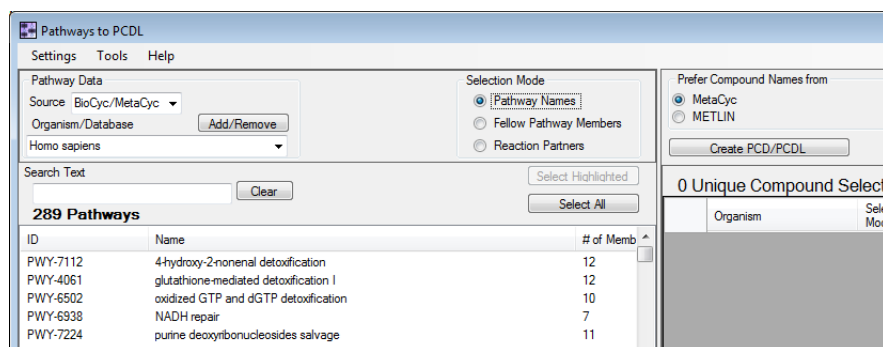

Figure 13 Pathway Names Selection Mode
- b Review the updated list of pathways in the display pane (Figure 13).